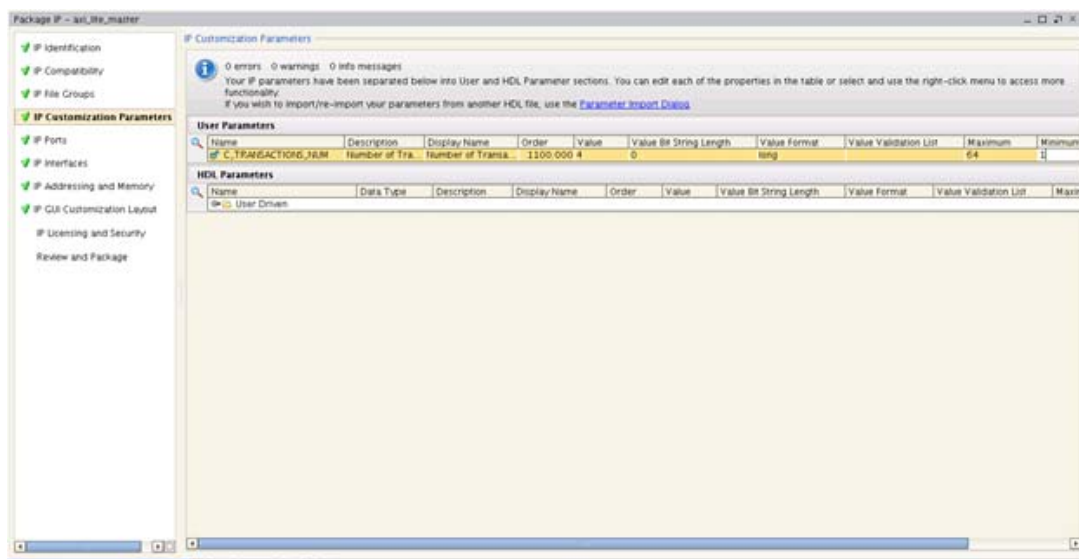

Figure 17: IP Customization Parameters for AXI4-Lite Master
1. Select **IP Customization Parameters**. In the User Parameters table, update the following fields for C_TRANSACTIONS_NUM (Figure 17):